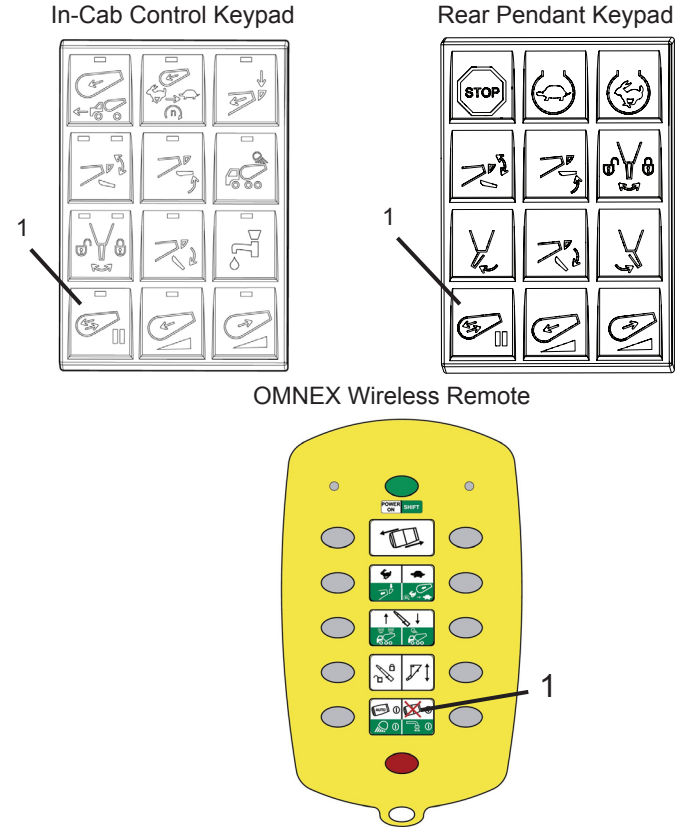

Figure 14
1. The drum STOP button (Figure 14, Item 1) must be OFF (this means the indicator light must be OFF) upon truck startup for drum rotation to be enabled.
**Chute Lower Operation:** Push the Chute Lower button to lower the chute (Figure 14, Item 4).